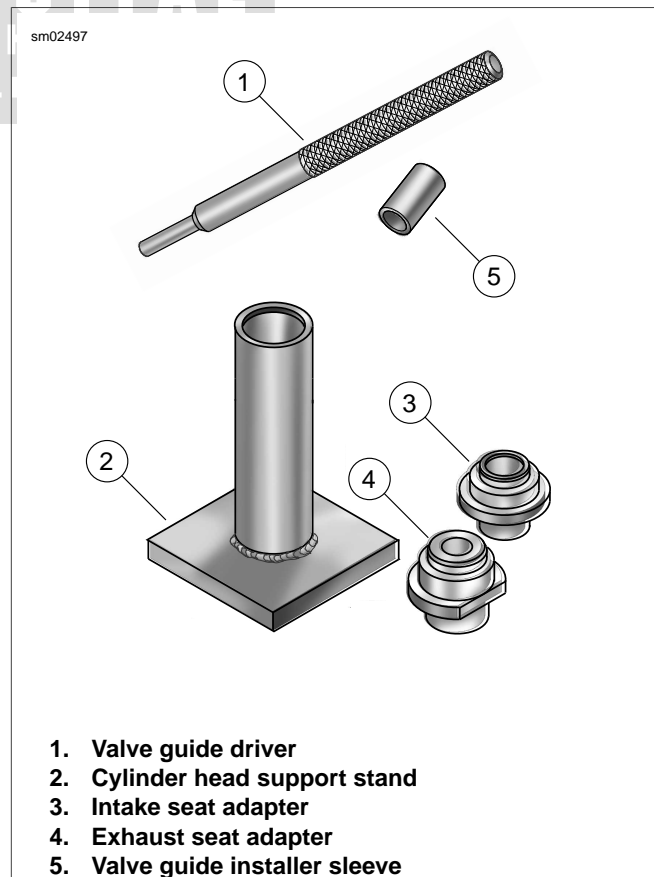

Figure 3-83. Valve Guide Replacement Tools
1. See Figure 3-83. Prepare cylinder head for valve guide replacement.
- b. Insert sleeve of INTAKE SEAT ADAPTER (Part No. HD-39782-3) (3) or EXHAUST SEAT ADAPTER (Part No. HD-39782-4) (4) seat adapter into tube at top CYLINDER HEAD SUPPORT STAND (Part No. HD-39782-1) (2).
- a. See Figure 3-83. Insert sleeve of INTAKE SEAT ADAPTER (Part No. HD-39782-3) (3) or EXHAUST SEAT ADAPTER (Part No. HD-39782-4) (4) into tube at top of support stand (2). Position cylinder head so that valve seat is centered on seat adapter.